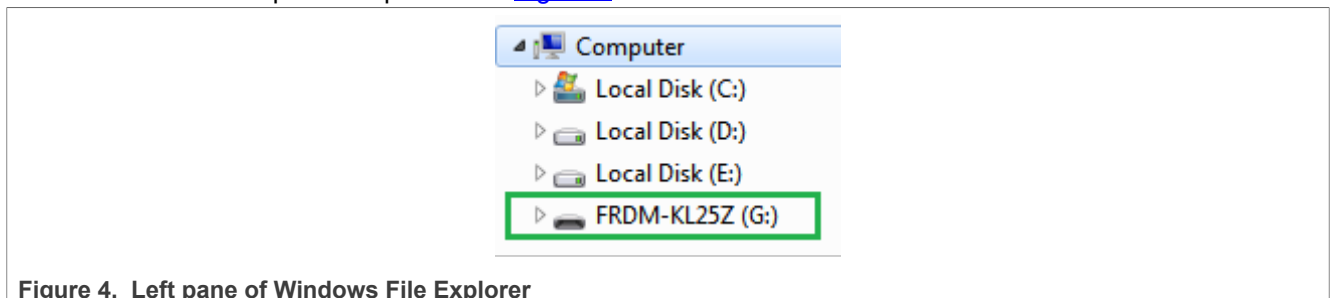

Figure 4. Left pane of Windows File Explorer
- This time without pressing the **RST** button, the FRDM_KL25Z device should appear on the left pane of the Windows File Explorer as pictured in Figure 4.